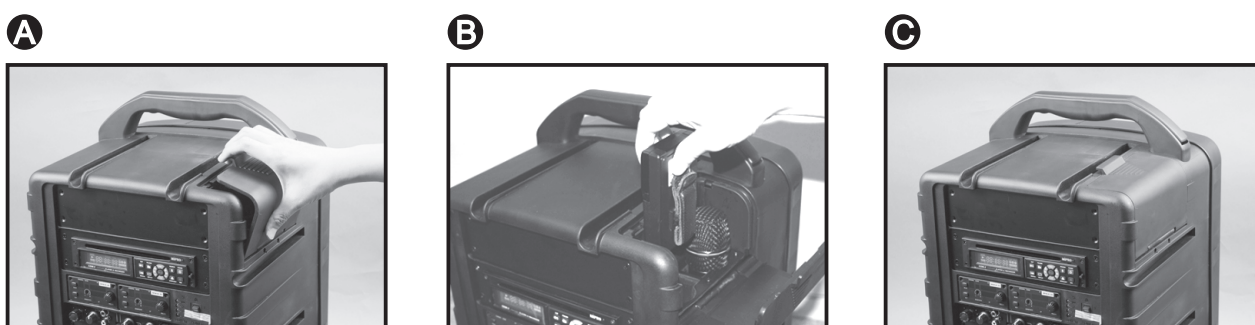

Fig. 7
3. Storing Bodypack Transmitters. Fig. 7: